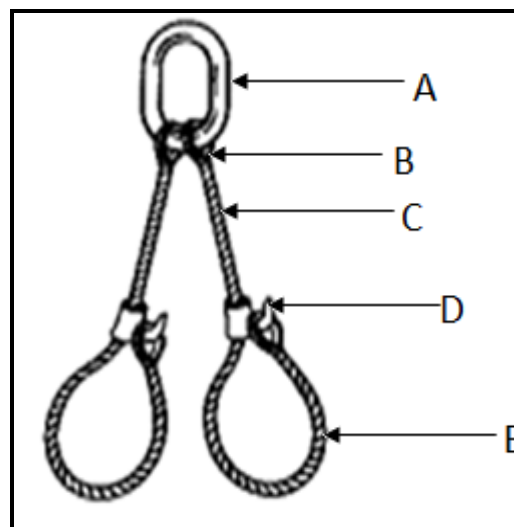

FIGURE 2
4.1 FIGURE 2 below shows a sling used during rigging.